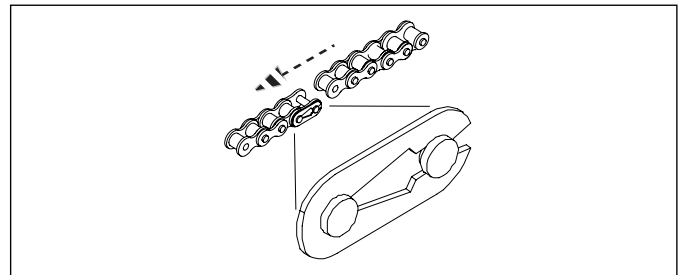

Figure 92
*Refer to Figure 92 (arrow shows chain direction)*